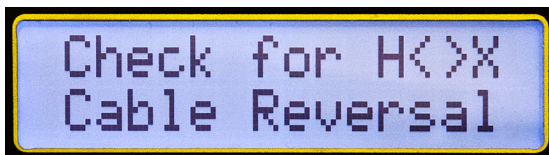

Figure 5-5
- If the H/X is reversed, the instrument will display the error message (see Fig. 5-5) as in VT/PT test and terminate the test.